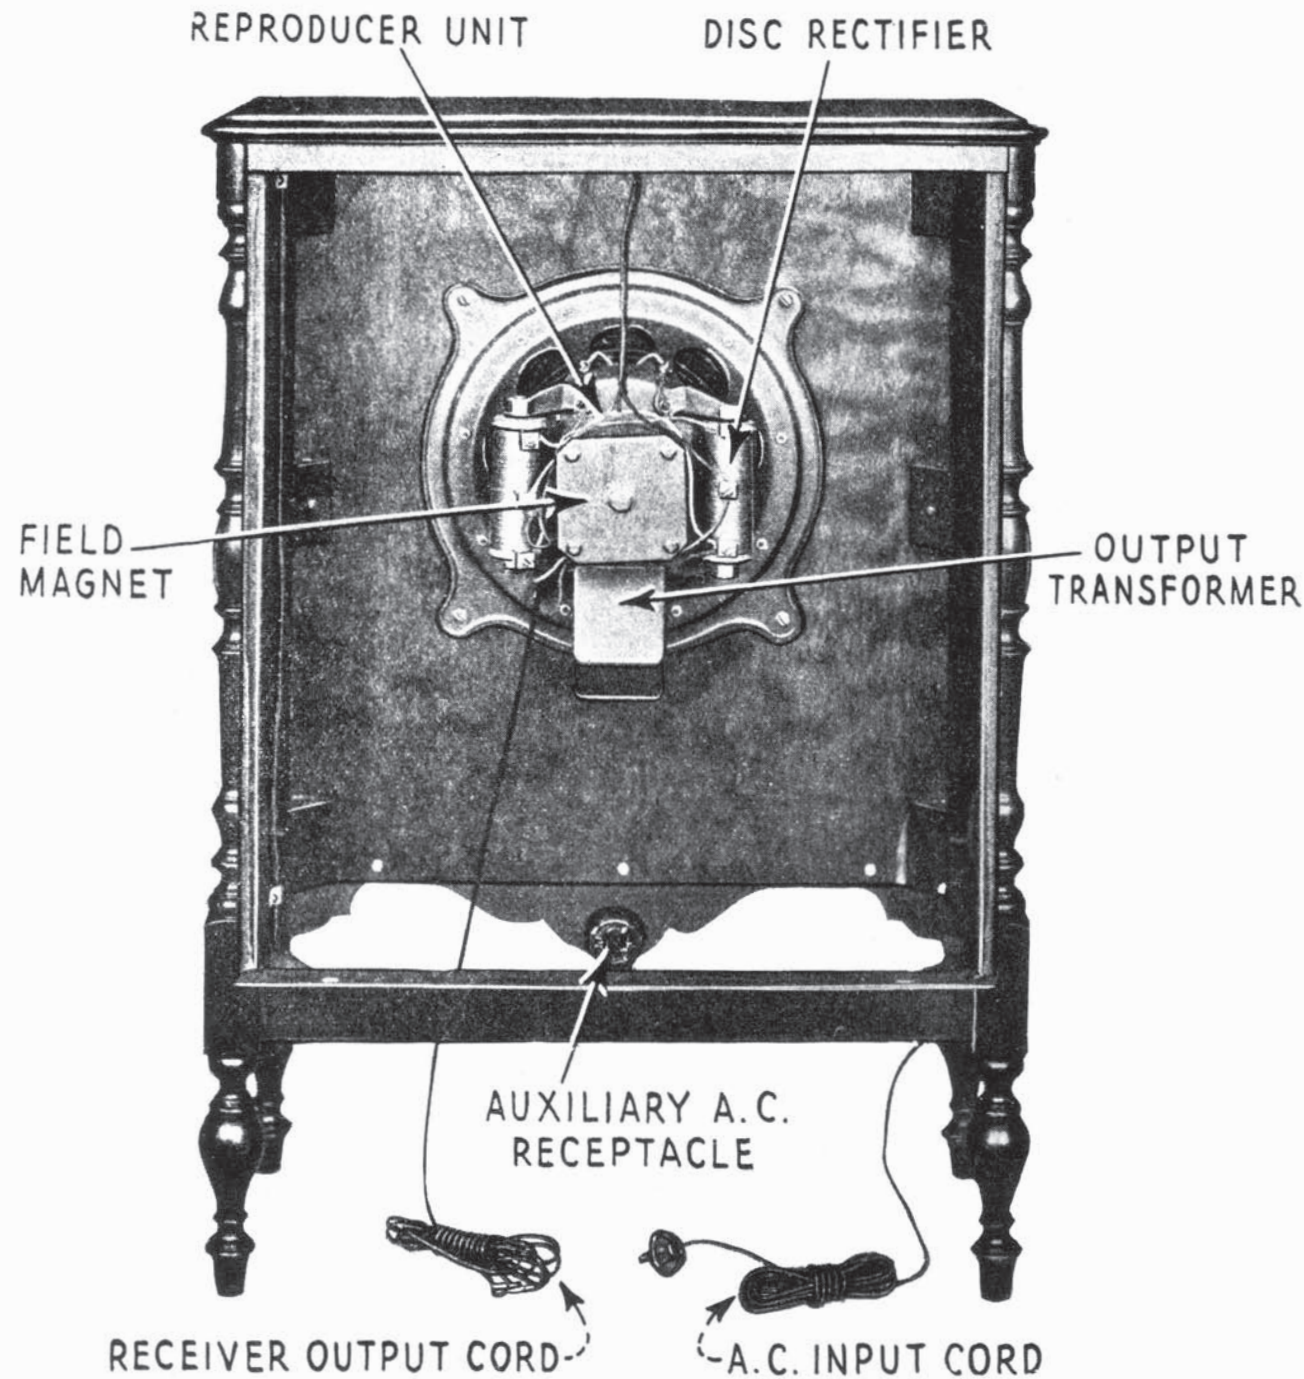

Figure 1—Rear interior view of Loudspeaker 106
- (b) Place the mechanism assembly in position on the front baffle board as indicated in Figure 1 (output transformer toward the legs). Place the four mounting screws in place and screw down tightly.
- (c) Connect the receiver output leads, the cord that has phone tips, to the two terminals located on the lower side of the reproducer unit. See Figure 1.